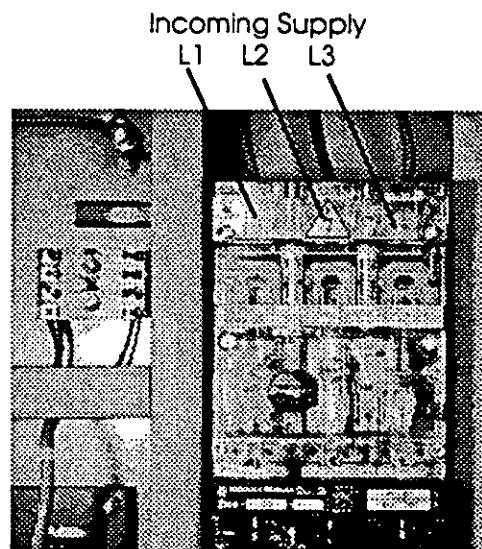

Figure 3.1 .
- iii) Connect the incoming 3 phase supply (L1/L2/L3) to the main isolator as shown in figure 3.1.